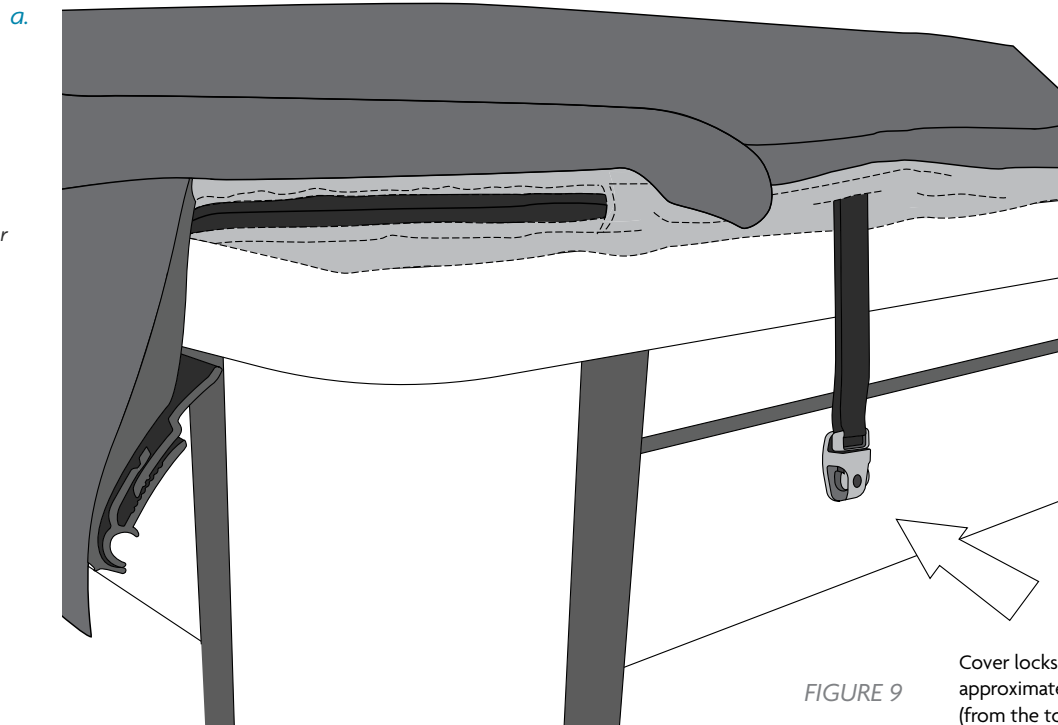

FIGURE 9
4. **COVER LOCKS** Using provided #4x $\frac{3}{4}$ " Phillips Flat Head Screws (i), mount the cover locks located along the long sides of the Axis Cover to the swim spa skirting (Figure 8). These cover locks **MUST** be attached and secured when swim spa is not in use. Refer to cover lock system overview (Figure 9).